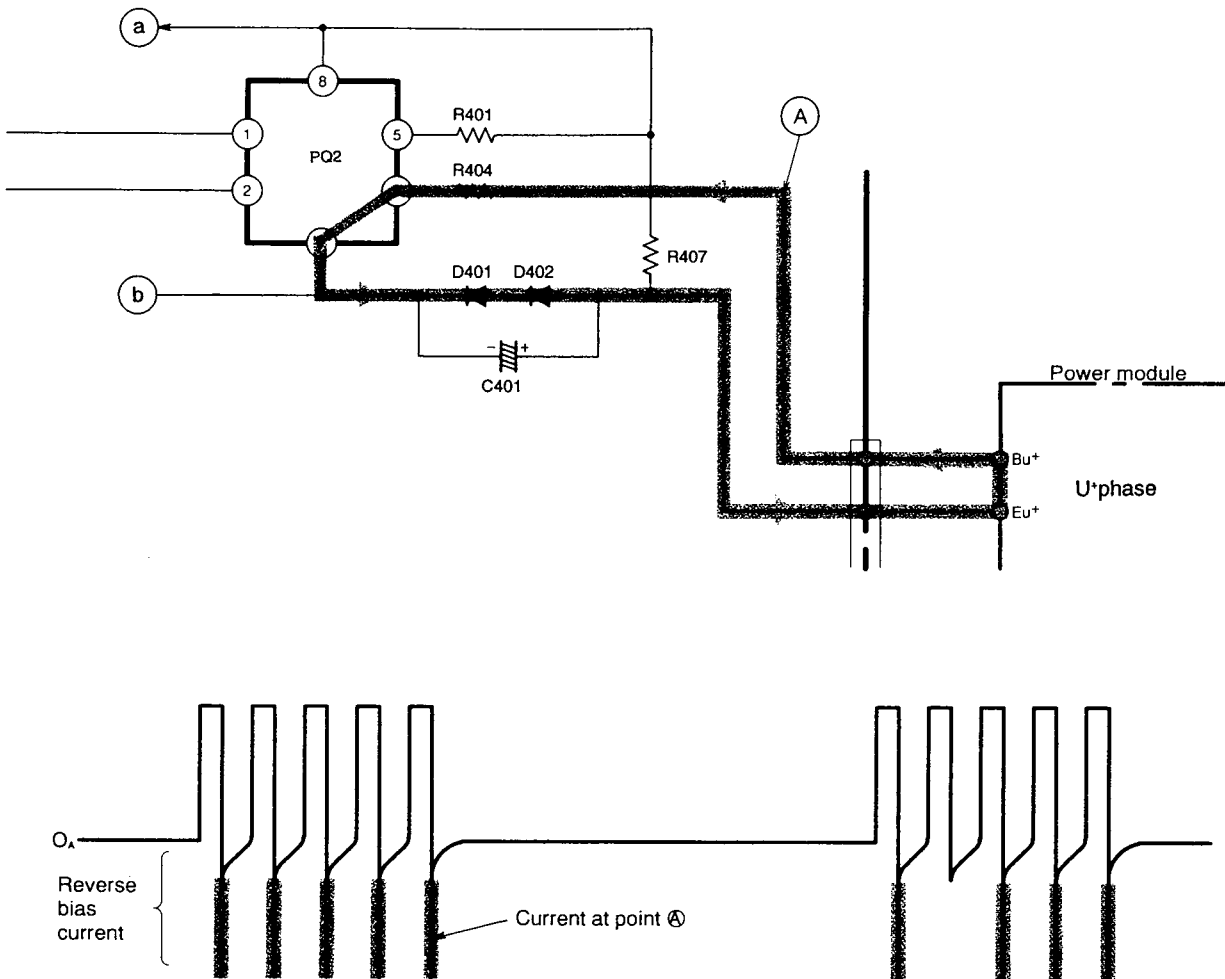

Fig. 7-3 Waveform of Transistor Base Current (Reverse Current at Point A)
- When pin ②③ of the micro computer then goes "Lo" → "HI" a photocoupler between PQ2 pins ① and ② turns off and the reverse bias current flows to C401 → power module's Eu⁺ terminals → Bu⁺ terminals → R404 → PQ2 to cut off the upper arm transistors. (Fig. 7-3)